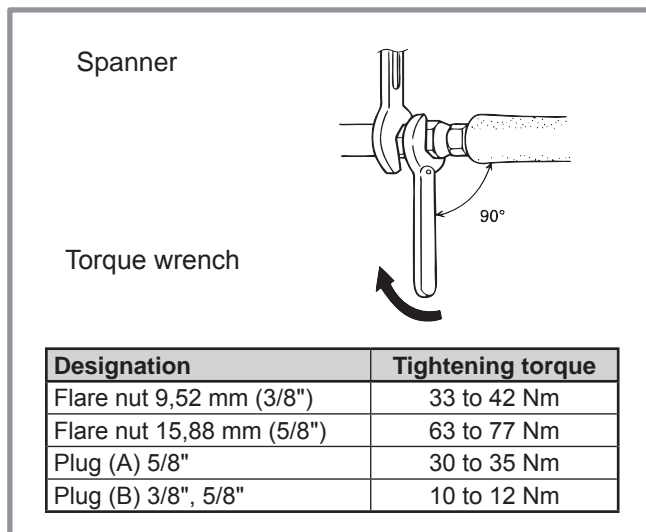

figure 20 - Tightening torques
- Respect the tightening torques stated (see figure 20, page 19).
- Let the pump continue to operate for another (30) minutes after reaching the vacuum.
- Remove the access plugs (A) from the valve controls.
- Refit the 2 original plugs (ensure they are clean) and tighten to the recommended torque from the table figure 20, page 19. The sealing is performed in the caps only metal to metal.